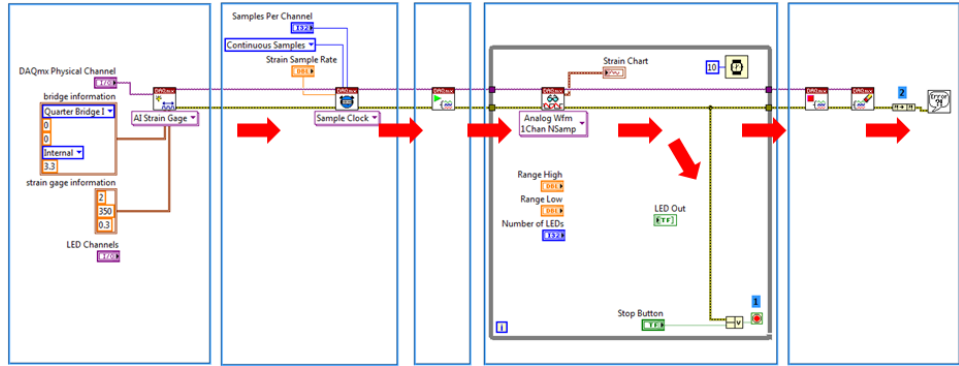

Figure 17. To finish the strain acquisition code, wire the task and error wires through the code.
31. Wire the task and error wires through the code as shown in Figure 17. This will pass the task values and any errors that may arise through the code.